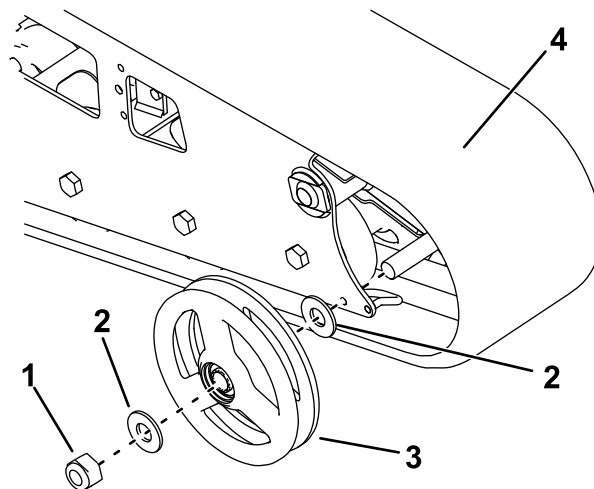

Figure 60
7. Remove the nut securing the outer front wheel and remove the wheel (Figure 60).
8. Remove the track (Figure 60).
9. Pull the 2 large washers out of the outer wheels, 1 on each side of each wheel (Figure 60).
12. Install the new track. (Figure 60).
13. Install the outer front wheel and secure it with the nut removed previously (Figure 60).